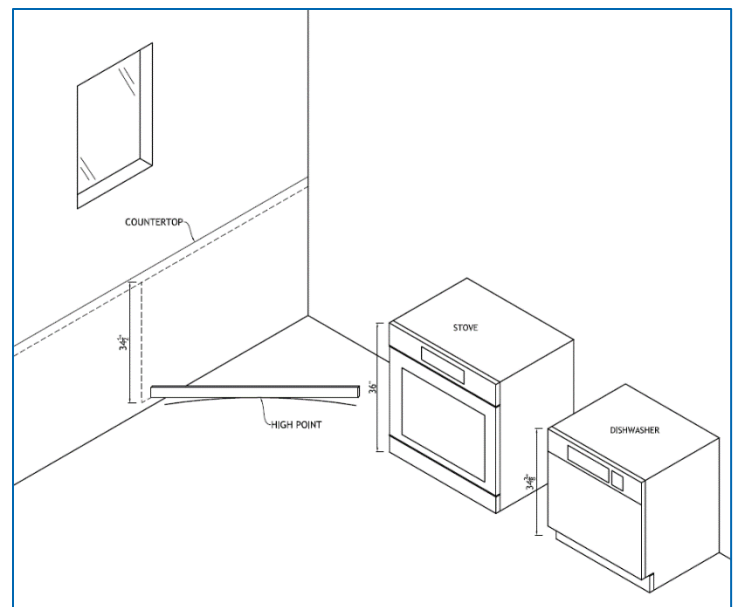

Figure 3
- Measure your stove and dishwasher and make sure they fit with the countertop location from the high point of the floor. (*figure 3*)